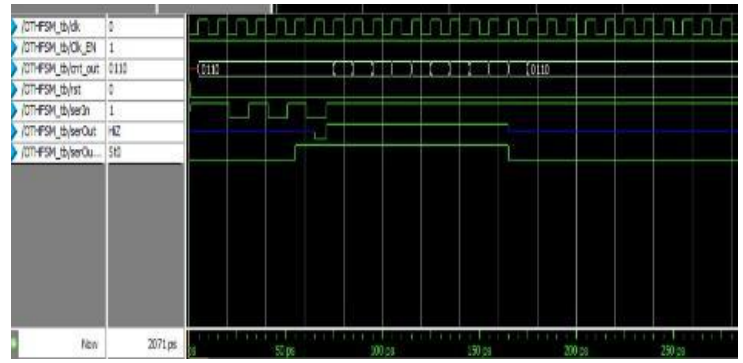

Fig. 10 ModelSim output for OTHFSM testbench
- 3) *Testing the design:* The designed testbench as depicted in Fig. 11 will show the correctness of the design. ModelSim output is demonstrated in Fig. 10.